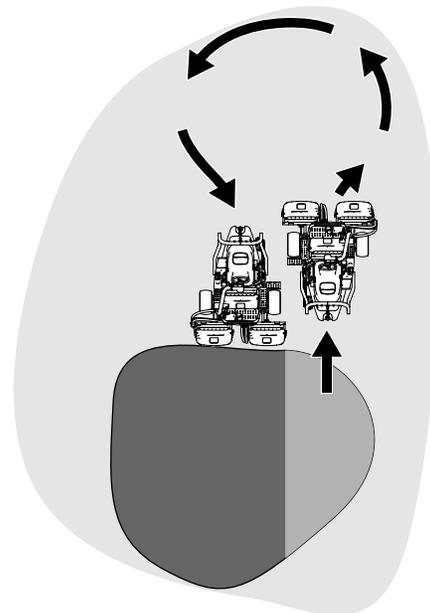

Figure 22
6. To cut down on operating time and ease lineup for the next pass, momentarily turn the machine in the opposite direction, then turn it in the direction of the uncut portion; a tear-shaped turn (Figure 22) to quickly line up for your next pass.